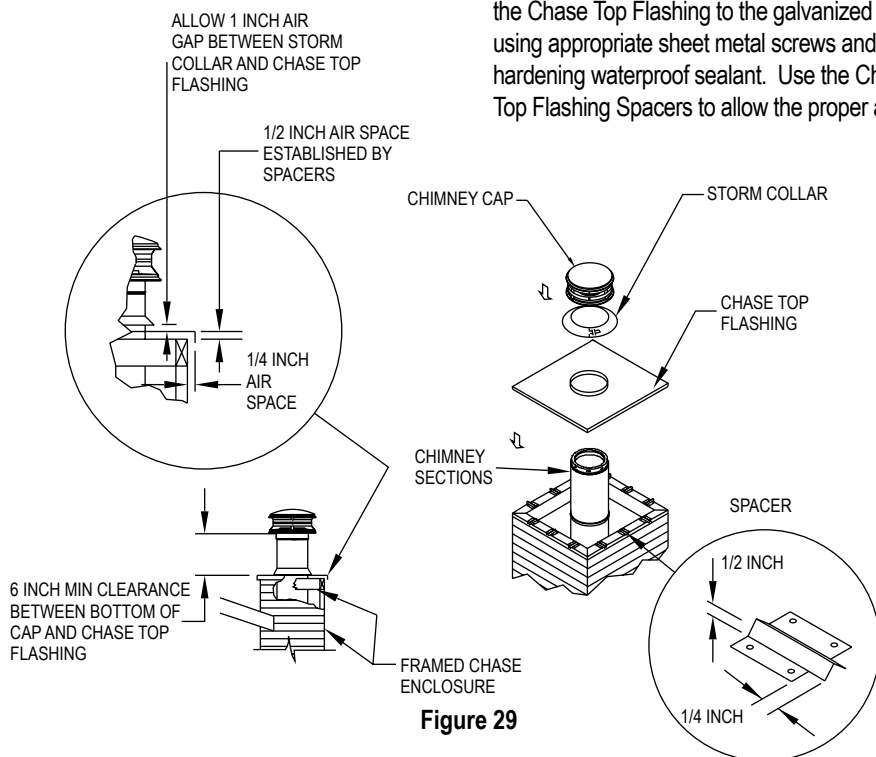

Figure 29
9. Install Chase Top Flashing: It is recommended that a Tee Supported Chimney be enclosed in a chase. If a chase enclosure has been constructed, you can either use a standard flat-roof flashing, or you can use a Chase Top Flashing. Using a Chase Top Flashing allows for a lower profile for the chimney. The Chase Top Flashing has an opening that is 3" larger in diameter than the DuraTech Chimney. If the Chase Top Flashing can fit over your chase enclosure as required (**Fig 29**) then install as directed, or trim as needed. However, if the Chase Top Flashing is smaller than your chase enclosure, you will need to provide a galvanized sheet capable of covering your chase and overhanging the sides by 1/2 - 3/4 inch. Attach the Chase Top Flashing to the galvanized sheet using appropriate sheet metal screws and non-hardening waterproof sealant. Use the Chase Top Flashing Spacers to allow the proper air-gap
clearances on the galvanized sheet. The Chase Top Flashing Spacers are available to insure that the proper air-gap is maintained. **Figure 29** displays in some detail, how these air gaps are established using the Spacers and Chase Top Flashing. Secure the Chase Top Flashing to the chase using a sufficient number of #8, 1-1/2" wood screws, being careful to insure the air gap is maintained between the flashing and the chase. Seal the screw heads with non-hardening sealant. When installing the Storm Collar, allow a 1" air space between the bottom of the Storm Collar and the Chase Top Flashing .